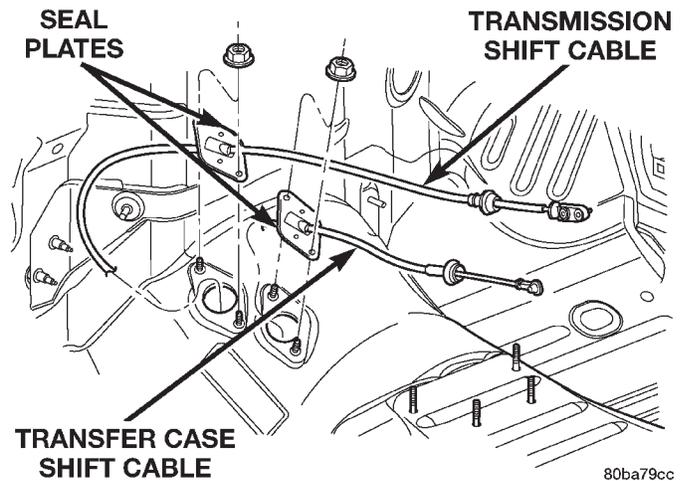

Fig. 34 Shift Cables at Floor Pan
- (8) Remove the shift cable seal plate retaining nuts from the floor pan studs (Fig. 34).